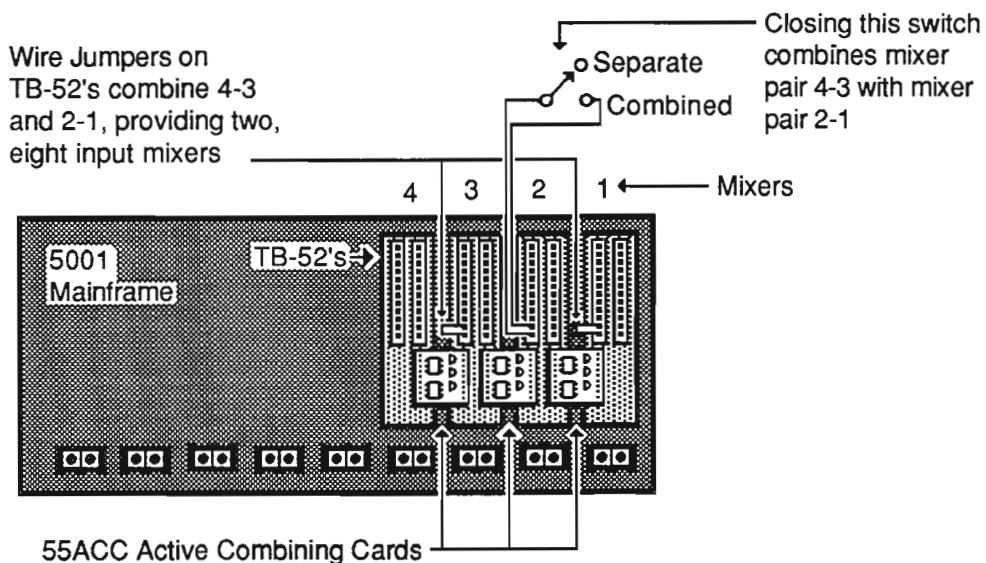

Figure 15
Three (3) 55ACC cards are required. They are used as illustrated in Figure 15 below. Notice that the Master/Slave switch wired to the second mixer's TB-52 provides the room combining function. This switch line carries only low level DC and can be remoted to a convenient location. Additional mixers could be ganged with mixers 2 and 4 using 55PCC cards as long as a 55ACC is used between the two groups of ganged mixers.